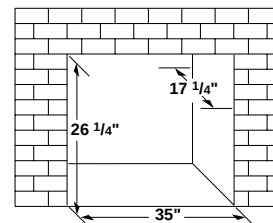

Figure 13 - Rough Opening for Installing in Masonry Fireplace
- Use dimensions shown in Figure 13 for the masonry fireplace opening.